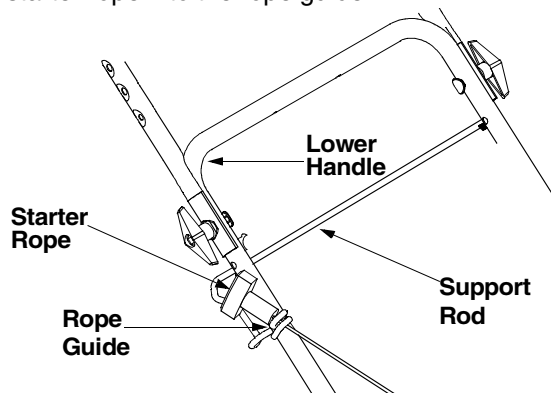

Figure 6
- The rope guide, which is connected to the support rod, is located on the right side of the lower handle. See Figure 6.